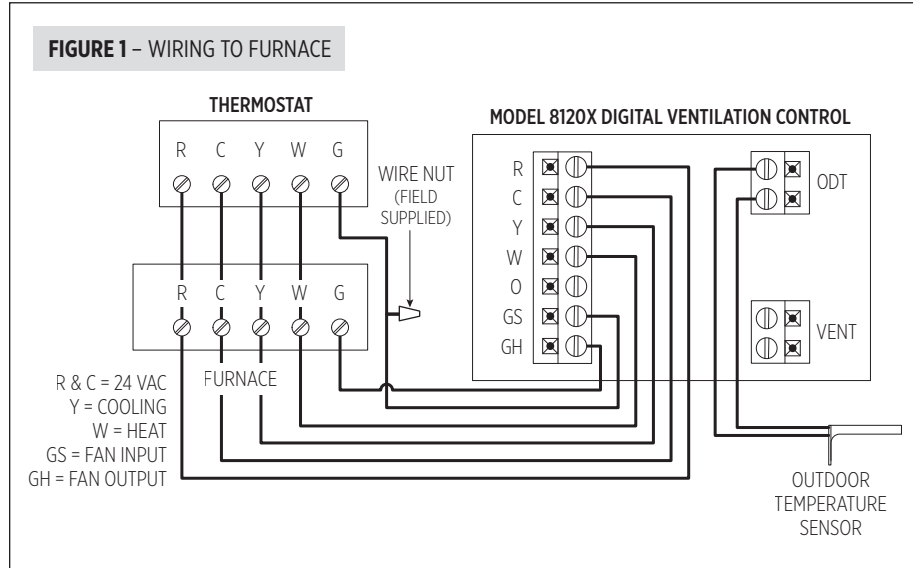

FIGURE 2 - WIRING TO HEAT PUMP
2. Run an 8-conductor thermostat cable from the control to the HVAC equipment. Wire the controller to the HVAC equipment in accordance with **FIGURE 1** or **FIGURE 2** diagram below. Contact customer service if wiring assistance is needed for other equipment configurations.